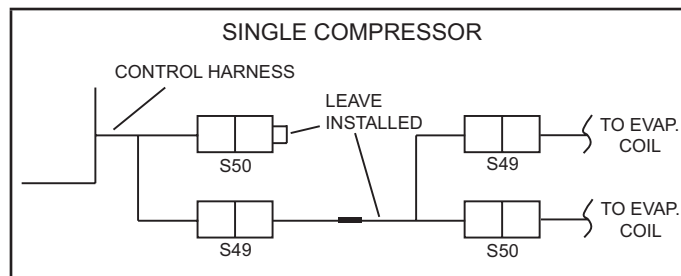

FIGURE 8. Jumper Harness Remains Installed
- 1 - Leave jumper harness connected to main control harness and S50 jumper plug. Refer to figure 8.